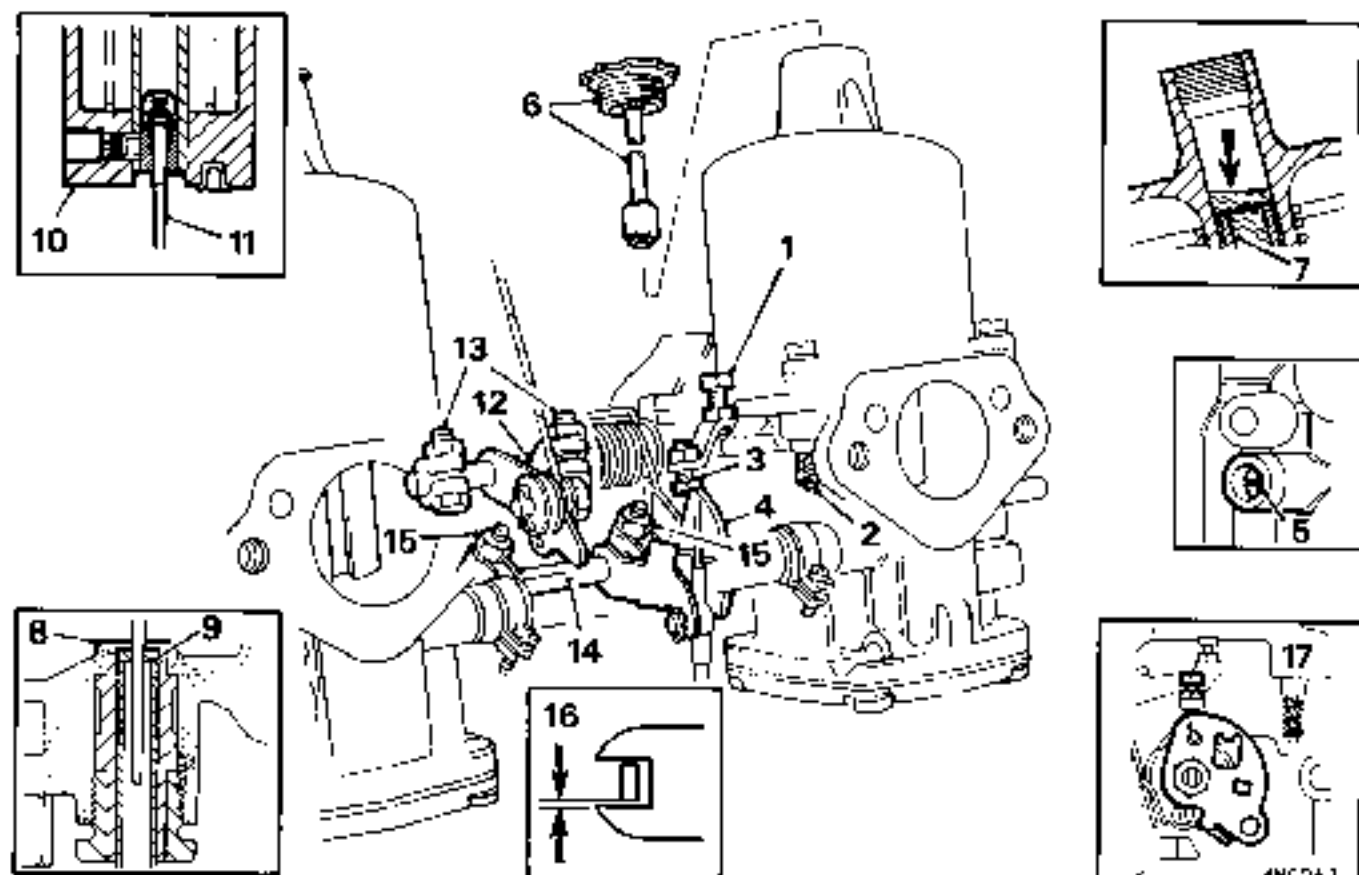

Fig. D 13
- Unscrew and withdraw the piston dampers from the suction chambers. Top up with new engine oil (preferably S.A.E. 20) until the level is $\frac{1}{8}$ in. (1.3 mm.) above the top of each hollow piston rod (see Fig. D.13). Refit the damper assemblies.